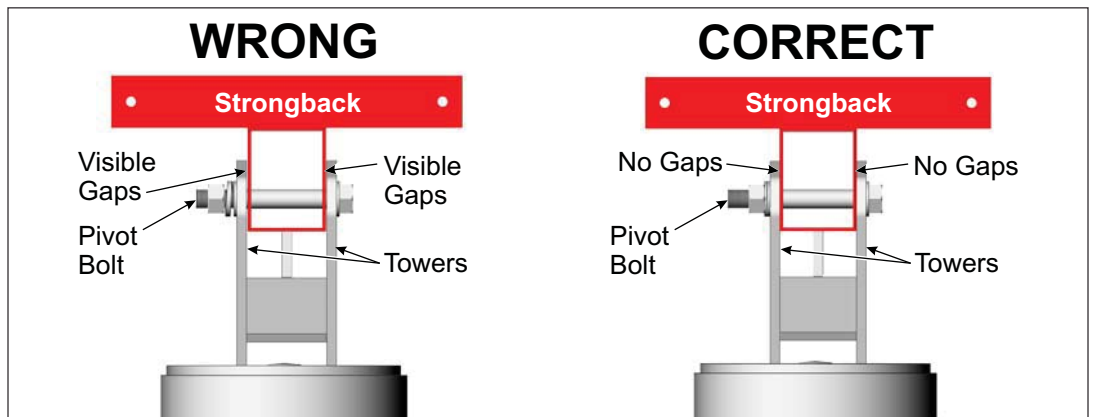

Figure 2-4: Tighten and Torque the Pivot Bolt
G. Return and tighten the Pivot Bolt, The Pivot Bolt cannot be left loose - the Mounting Sleeve Vertical Towers must be firmly clamped to the sides of the Strongback eliminating any gaps between the Vertical Towers and the Strongback. **Torque to 200-250 ft.-lbs.** (See Figure 2-4)